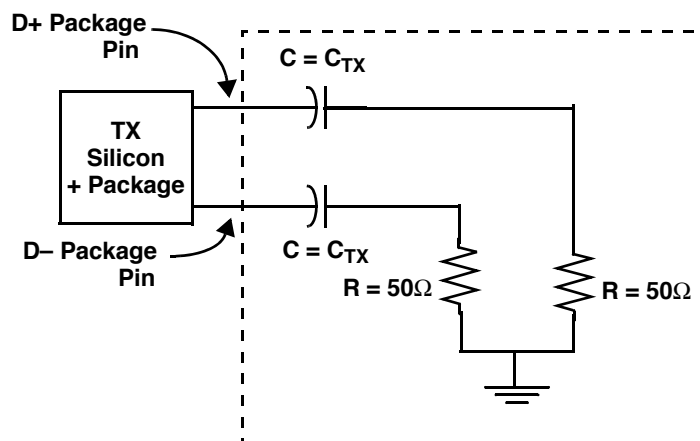

Figure 47. Compliance Test/Measurement Load
- 2 Specified at the measurement point into a timing and voltage test load as shown in Figure 47 and measured over any 250 consecutive Tx UIs.
Transmitter and receiver AC characteristics are measured at the transmitter outputs (SD\_TX $n$  and SD\_TX\_B $n$ ) or at the receiver inputs (SD\_RX $n$  and SD\_RX\_B $n$ ). The AC timing and voltage parameters must be verified at the measurement point, as specified within 0.2 inches of the package pins, into a test/measurement load shown in Figure 47.